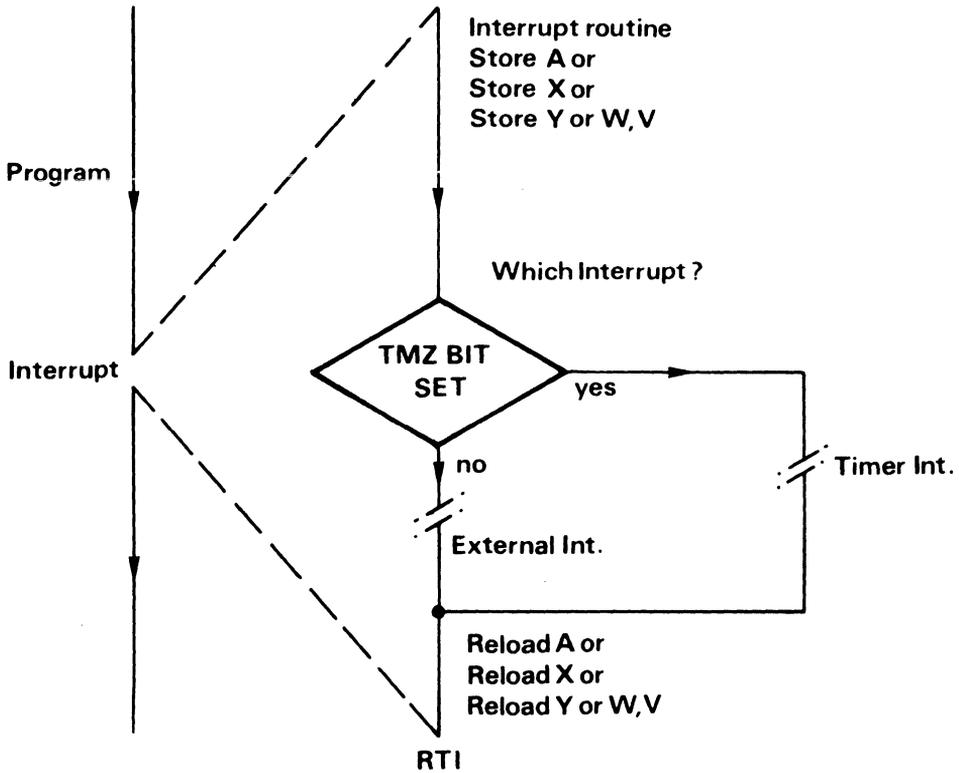

Figure 3.11. Interrupt Flow Chart.
1. The timer is set to work in the output mode and the timer pin is hardwired to the \overline{IRQ} pin. Bit 4 (D_{out}) of the TSCR should be "0" which will cause an interrupt every time the timer counter decrements to zero. At the same time bit 7 (TMZ) of the TSCR gets set to "1". Thus within the interrupt routine it is necessary to read the TMZ bit to determine the source of the interrupt. A "1" indicates a timer interrupt, while "0" indicates an external interrupt. Program control should then be diverted to the appropriate part of the interrupt routine, see Fig. 3.11.